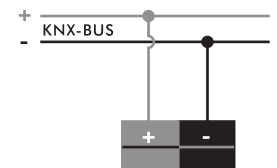

FIG. 7
4.2.1.4. Please refer to illustration of FIG.7 for correct wiring and fix the power box into European standard junction box with 2 pcs screws (See FIG. 8).
4.2.2.3. Please refer to illustration of FIG.7 for correct wiring and then screw the power box cap tightly.
4.2.3.4. Refer to wiring diagrams for correct wiring (See FIG. 7).